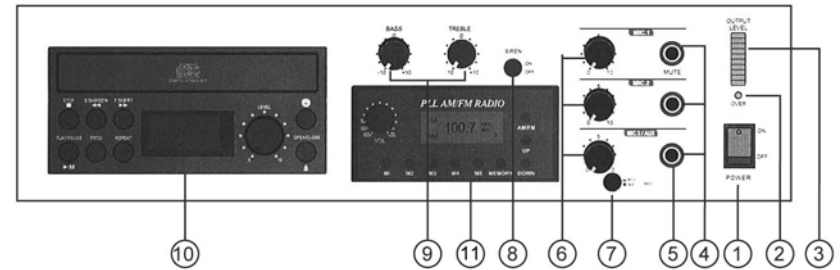

fig.1
- a. Pressing this section power switch (fig.1 ref.10) the display is lit and the CD player is ready for use.